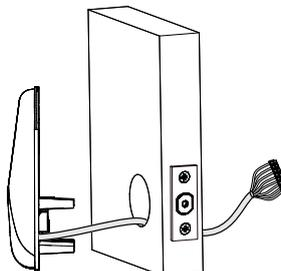

Figure 3A
- A. Ensure that gasket on both Outside Escutcheon and Inside Mounting Plate (Figure 3A) is properly fitted. Use either Rubber gaskets for doors 37-50mm thick or Plastic gaskets for doors 32mm-36mm thick.
As you position the outside escutcheon, route the cable through 54mm diameter hole (Figure 3A).